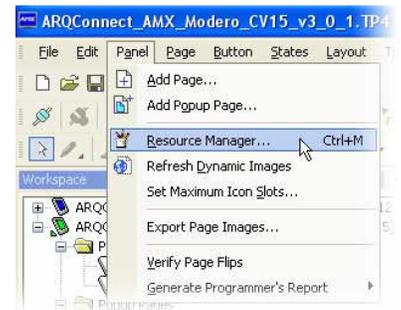

Figure 3
- a. From the "Panel" menu, select "Resource Manager" (Figure 3).